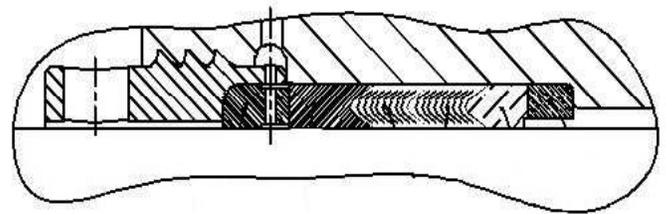

FIGURE 4-2 Typical Packing Assembly
10. Install the spacer, header ring, packing rings (2) and the lantern gland in the stuffing box with the packing lips facing toward the front of the fluid end. See FIGURE 4-2.